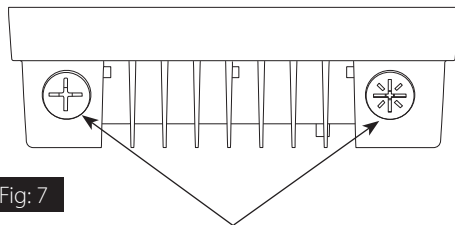

Fig: 7
1. Remove **Selector Switch Caps** by turning counterclockwise using a flat head screwdriver (Fig. 7).